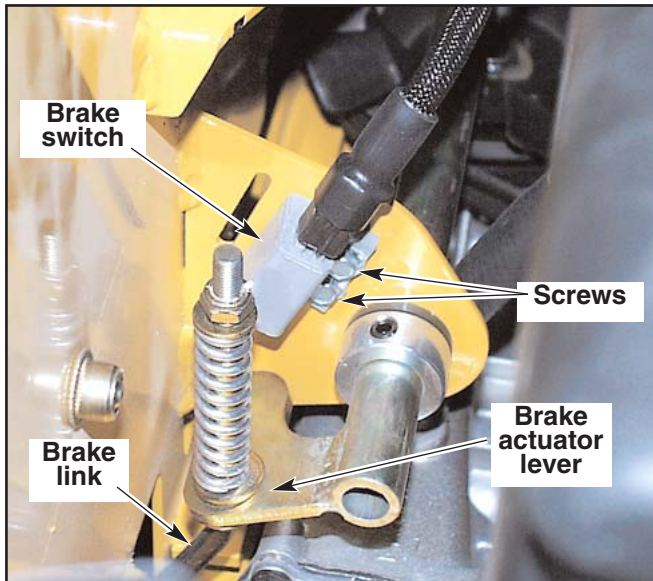

Figure 9-28
3. Make sure the brake actuator lever and the brake link are all the way down. Fig. 9-28
2. Loosen the screws holding the switch. Fig. 9-28